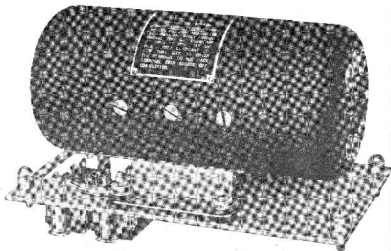
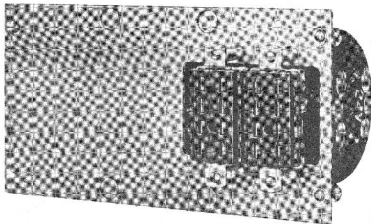

Fig. 22a. Dynamometer DM-35-(") or Dynamometer DM-37-(")
Fig. 22b. Dynamometer DM-35-(") or Dynamometer DM-37-("): Sub-base View
b. Dynamotors DM-35-() and DM-37-(*)*. Each of these dynamotors provides approximately 625 volts for operation of the transmitter. The dynamotors are of similar appearance; and two views are shown in Fig. 22a and Fig. 22b. Except for screened breathing vents in the end covers, the dynamotors are totally enclosed. The screened holes have been omitted in later dynamotors to reduce the entrance of dust or sand. This does not affect the power rating of the dynamotors. Their armatures are dynamically balanced and are supported by two single-race ball bearings. Both dynamotors are compound wound. The primary and secondary are wound in the same armature slots, but the two windings are brought out to separate commutators mounted on opposite ends of the armature shaft.